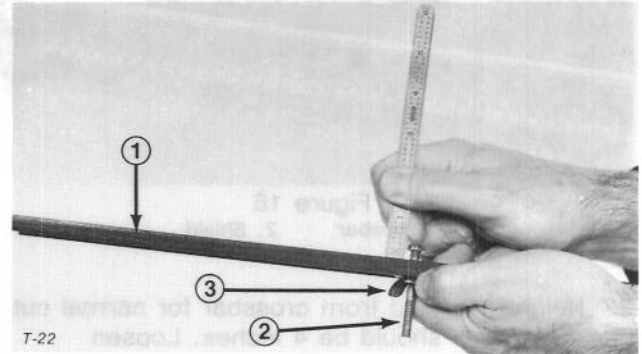

Figure 14
3. Loosen nut on gauge bar (Fig. 14) and set adjusting screw to desired height-of-cut. Distance between bottom of screw head and face of bar is height-of-cut.